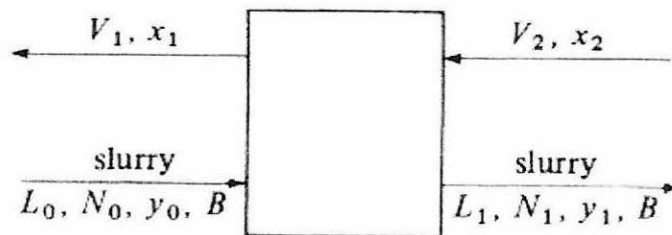

Figure Q3 (b)
- (c) Explain the direction of fluid flow, location of heat transfer and how vaporization occur inside all **three (3)** evaporators in **Q2 (b)**. (12 marks)
- (b) In a single stage leaching, soybean oil is extracted from 200 kg solid soybeans using hexane as a solvent. The solid soybean contains 40 wt% solute oil and 250 kg of fresh hexane solvent is used. The value of N for the slurry underflow is constant at 1.5 kg insoluble solid / kg solution retained (see **Figure Q3(b)**).